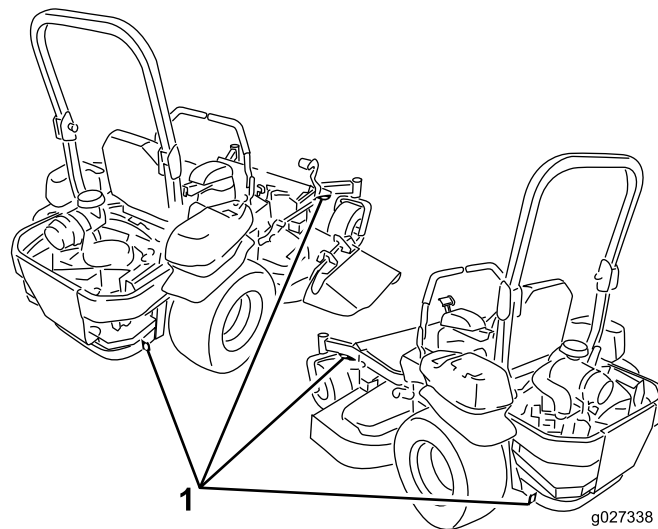

Figure 36
5. Use the metal tie-down loops on the machine to securely fasten the machine to the trailer or truck with straps, chains, cable, or ropes (Figure 36).